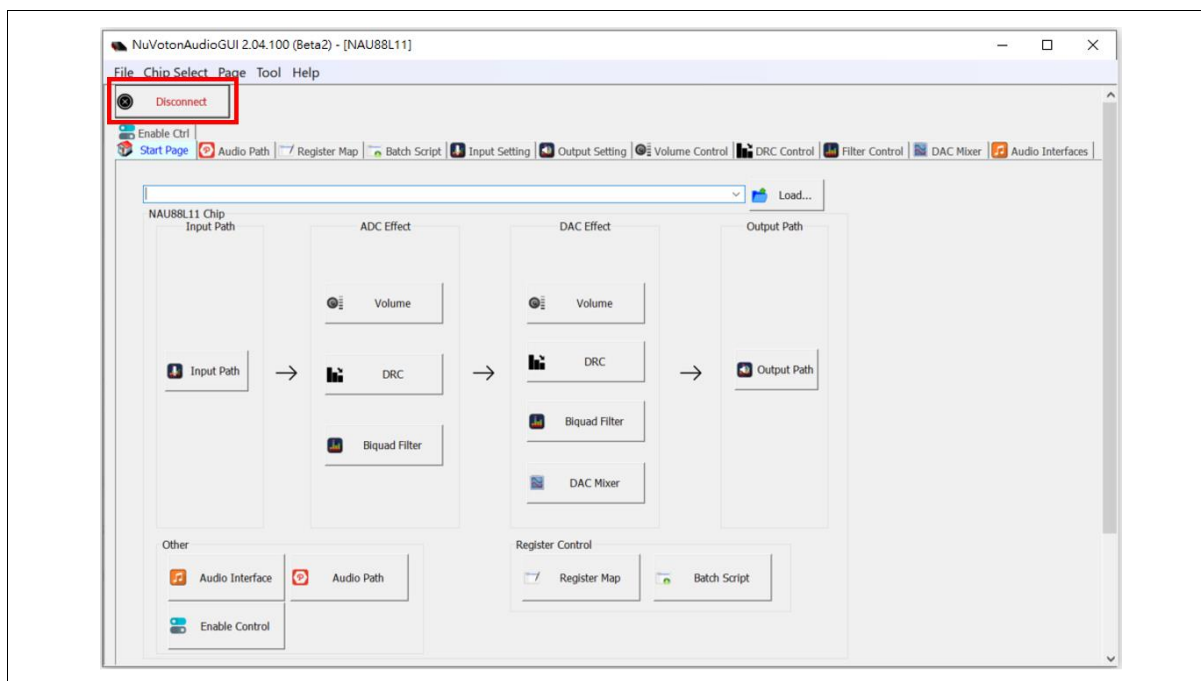

Figure 3-7 NuvotonAudioGUI Operating Step (4)
4. If the red [Disconnected] appears on the upper left corner of the NuvotonAudioGUI window, as shown in Figure 3-7, check if the hardware configuration is correct.